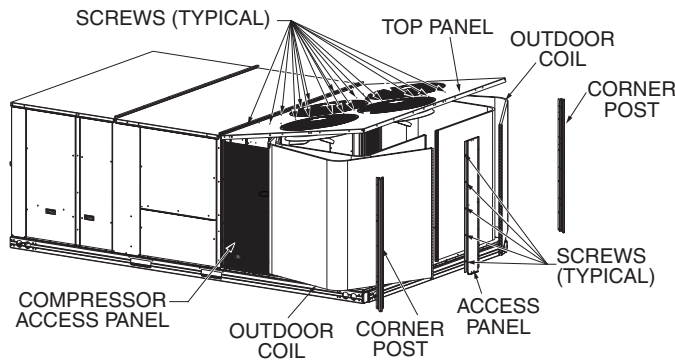

Fig. 10 — Cleaning Condenser Coil
3. Remove coil corner posts and access panel. See Fig. 10.
9. Reposition the outer coil section and remove the coil corner post from between the top panel and center post. Reinstall both coil corner posts and access panel. Replace all screws. See Fig. 10.